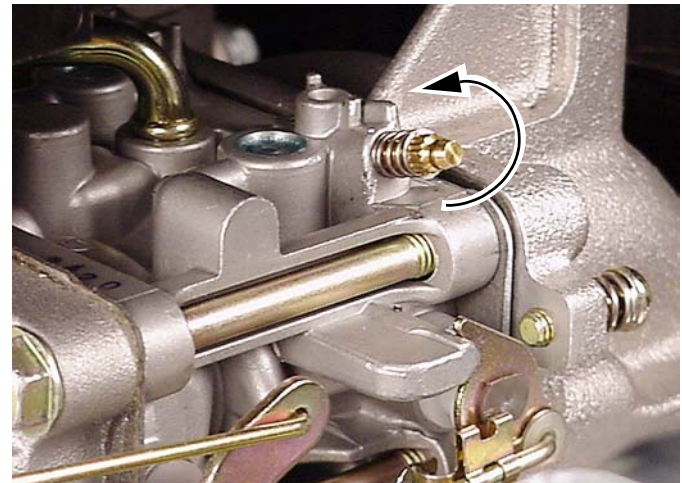

Fig. 186
2. Then turn screw counter-clockwise 3/4 turn, Fig 186.